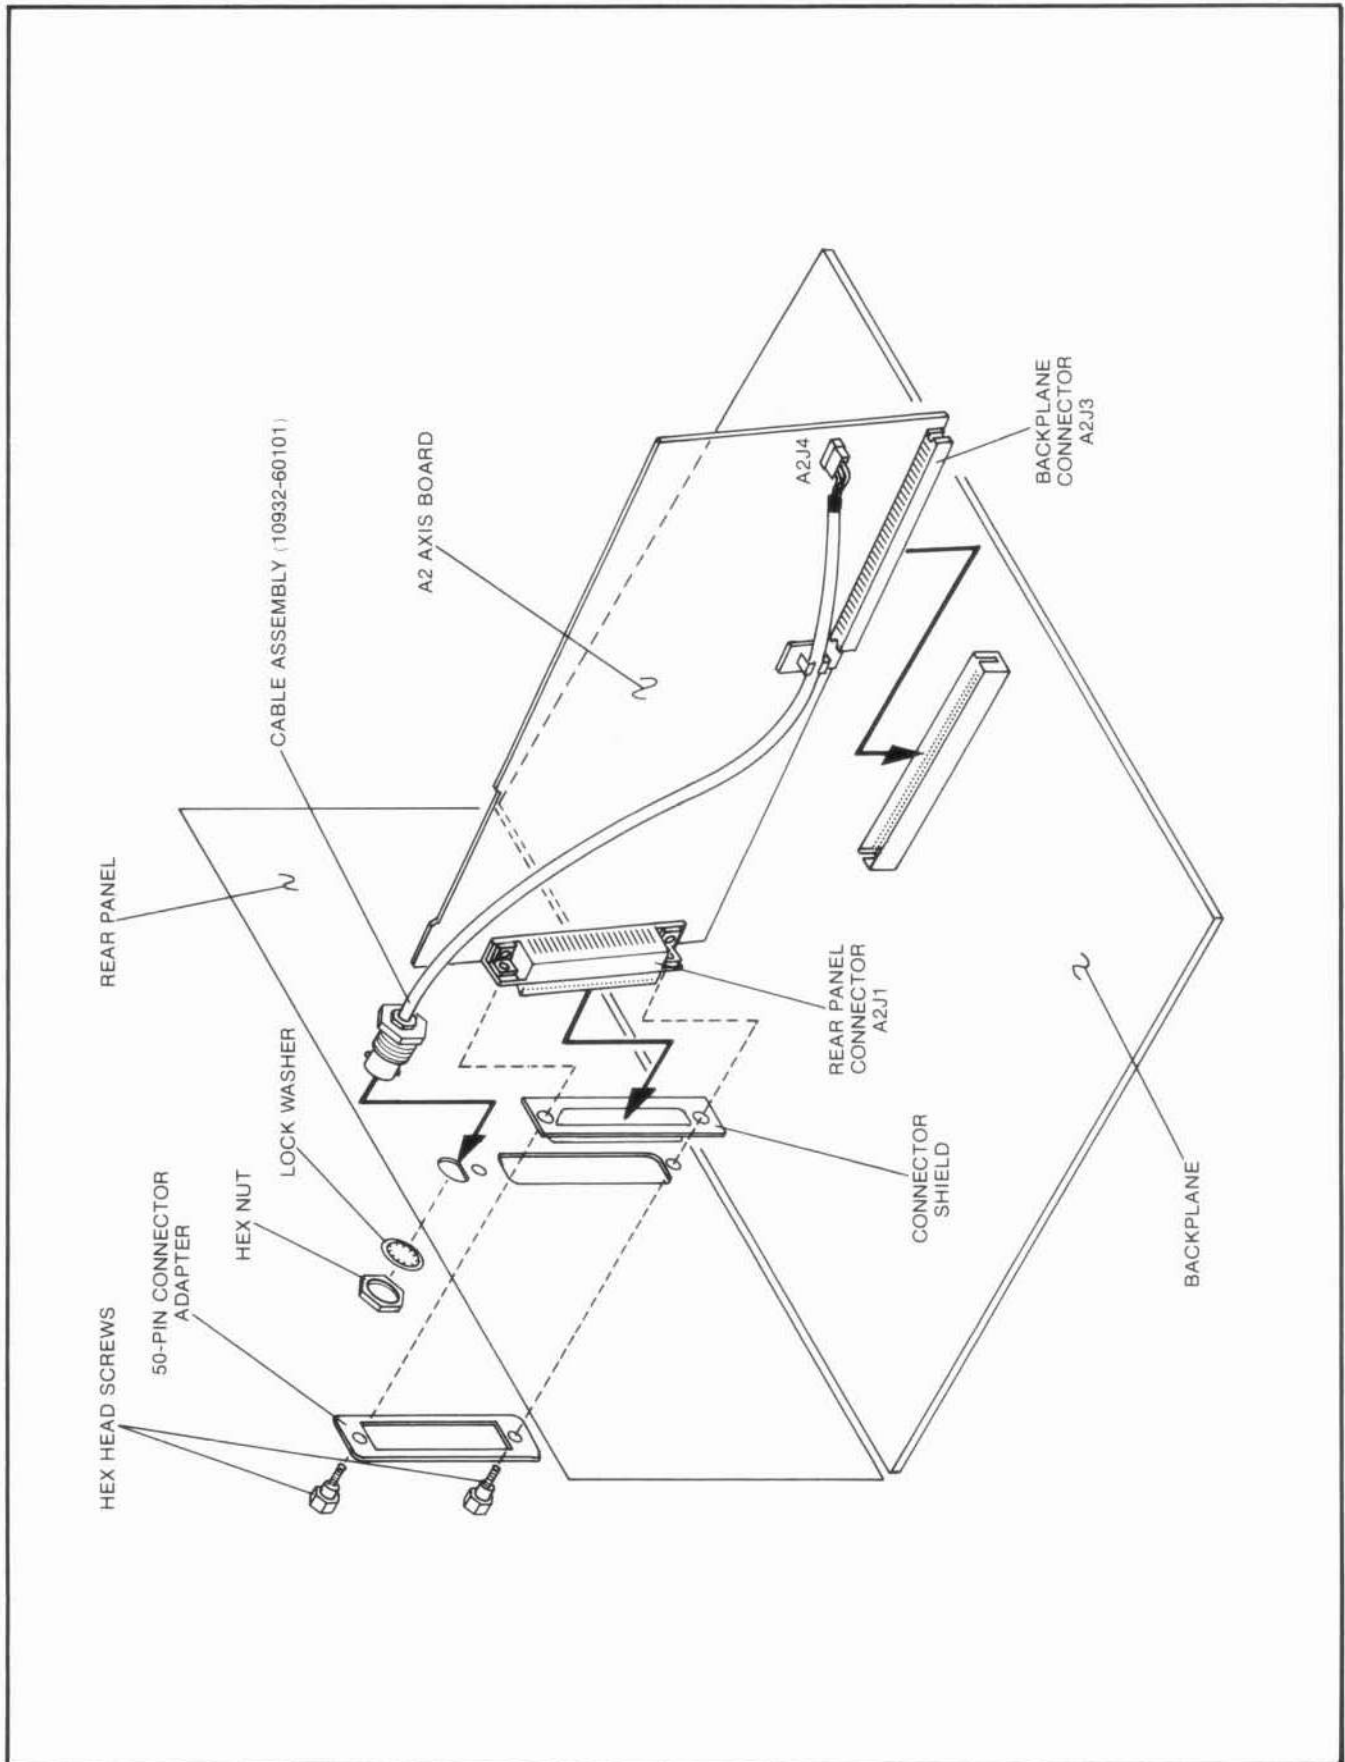

Figure 6-5. HP 5507A Board Installation, Exploded View
7. Non-Compensation Board Only. Place shield over 50-pin connector, push connector through rear panel opening and seat board onto selected backplane connector (*Figure 6-5*). Place 50-pin adapter plate over connector and secure in place with the two supplied screws. Make sure connector is centered in opening.